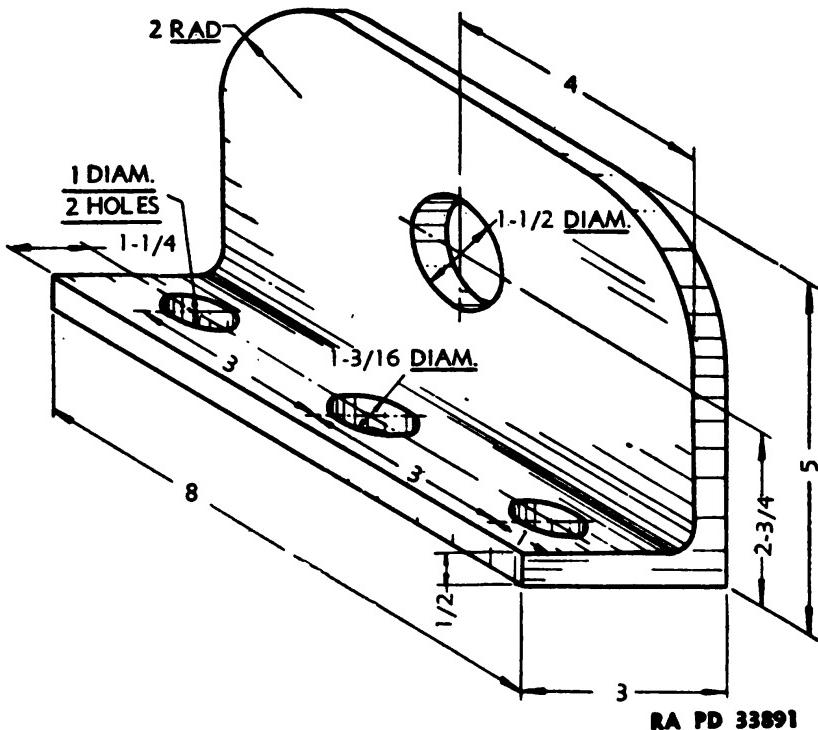

FIGURE 40.—Bracket.
(2) Disconnect fuel line at the transfer pump and throttle control rod at governor housing.
(3) Block tracks front and rear so the tractor cannot move.
(4) Engage flywheel clutch to hold clutch center disk in position. Then when the engine is installed, the teeth on the center disk will line up with the teeth in the flywheel.
(5) If a hoist is used, it should be of at least 2-ton capacity. If two chain hoists are available, removing and replacing the engine can be simplified by placing one on either side permitting the engine to be rotated better to aline the holes in the transmission case with those in the bell housing.
b. (1) Another method can be used by making brackets similar to the one shown in figure 40. Attach the brackets, one at the front of the front head and one at the rear of the rear head. The chains or cables used should be so placed that the engine will remain at the same angle as the transmission case when the bolts are removed. This is necessary so as to prevent damage to the pilot bearing for the upper transmission shaft. Raise the engine, place a heavy bar across the track roller frames under the front of the transmission case, then lower the engine until the transmission case just rests on the bar.